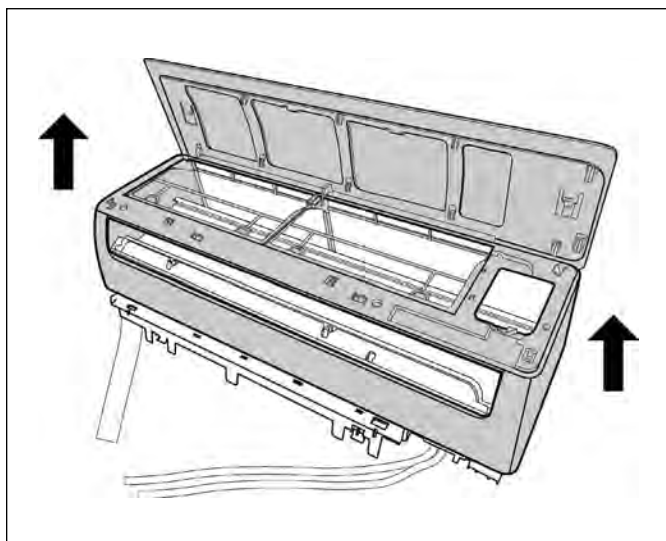

Figure 124
- Step 4: Pull out the panel frame as shown in Fig. 124.